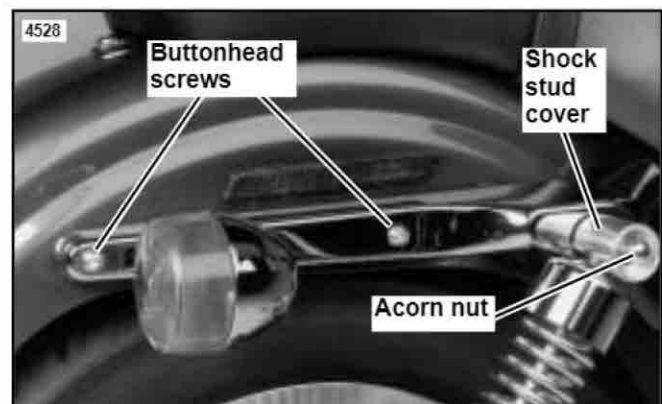

Figure 3. Rear Fender Support
4. See Figure 3. Remove buttonhead screws and locknuts that secure fender support cover to frame. Retain hardware for later reinstallation.
9. See Service Parts illustration. Using a small piece of tape, tape washer (2) from kit onto frame over hole from which rear turn signal stud was removed.
11. **All 1994-1997 models, except Huggers**, insert 4-1/2 in. bolt (11), from inside of fender, out through rearmost hole in fender frame. Leave loosely in place.